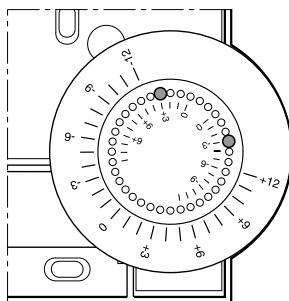

Fig. 6: Limiting the adjustment range
- ▶ Place the two small pins into the holes of the adjustment dials in order to limit the adjustment range (see Fig. 6). Orientate yourself on the basis of the inner scale:
In Fig. 6, the pins are inserted so that the adjustment dial can only be adjusted by  $\pm 3^{\circ}\text{C}$  around the zero point.